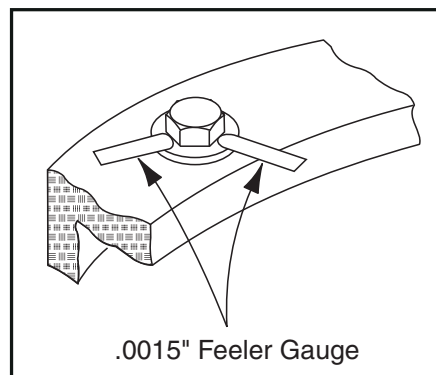

Figure 3-26. Swing Bearing Bolt Feeler Gauge Check
- b. At the positions indicated on Figure 3-26., Swing Bearing Bolt Feeler Gauge Check, try and insert the .0015" feeler gauge between the bolt head and hardened washer at the arrow indicated position.